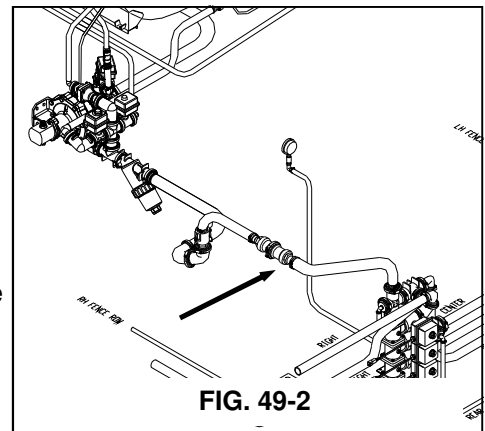

FIG. 49-2
**FLOW METER**– The flow meter located in the main solution line (fig. 49-2) monitors the solution flow and sends information back to the console and control valve. If the flow rate is not within the parameters programmed, the control valve will compensate by either opening or closing. If the rate continues to be outside the parameters an alarm will sound signaling a low flow rate. (See the Raven Console guide for more information on low flow limit)